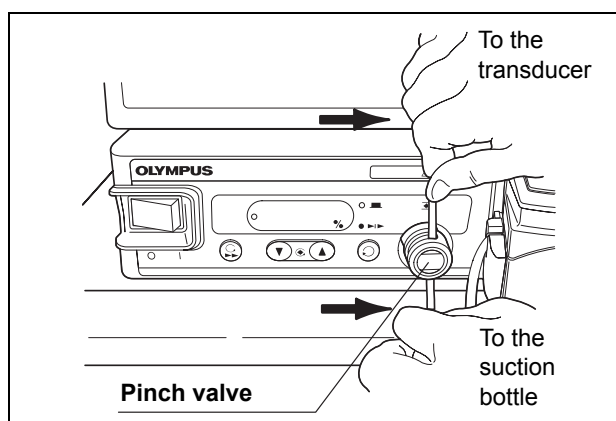

Figure 4.18
2. Attach the suction tube of the irrigation/suction tube to the pinch valve (see Figure 4.18).